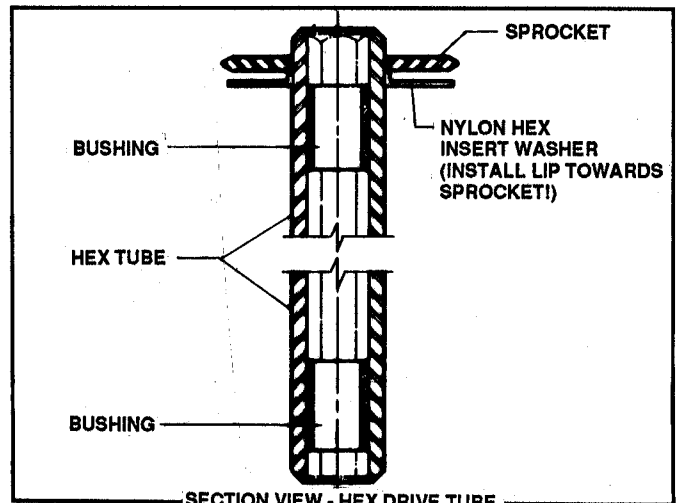

FIGURE 4.32
15. Inspect the hex insert washer for wear before installing on hex tube. Replace if required. (The hex insert washer, being nylon, serves as a bearing surface and also prevents grease from being splashed off the chain into the boot). Also, check the bushings in each end of the hex tube for wear and placement. Replace hex tube assembly if bushings are worn. See Figure 4.32.
THE THRUST WASHER SHOWN IN FIGURE 4.32 SERVES AS A BEARING SURFACE BETWEEN THE BULL GEAR ASSEMBLY AND HEX TUBE. OMISSION OF WASHER DURING ASSEMBLY, CAN CAUSE EXCESSIVE WEAR IN THE HEX TUBE AND MAY CAUSE THE SPROCKET TO FALL OFF!